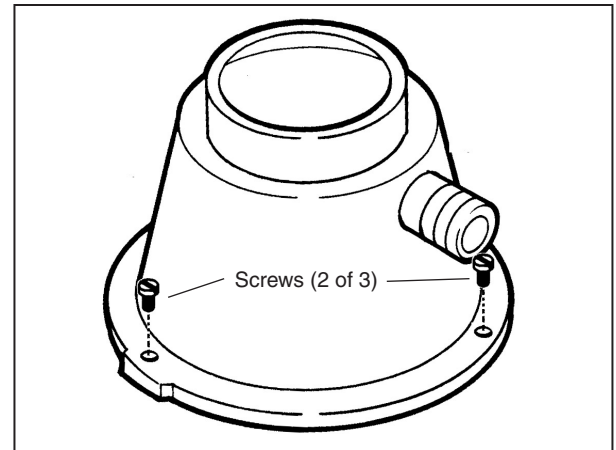

Figure 4.3
2. Remove three screws securing body container to upper end bell (see Figure 4.3). Remove two thru bolts from bottom of disposer.